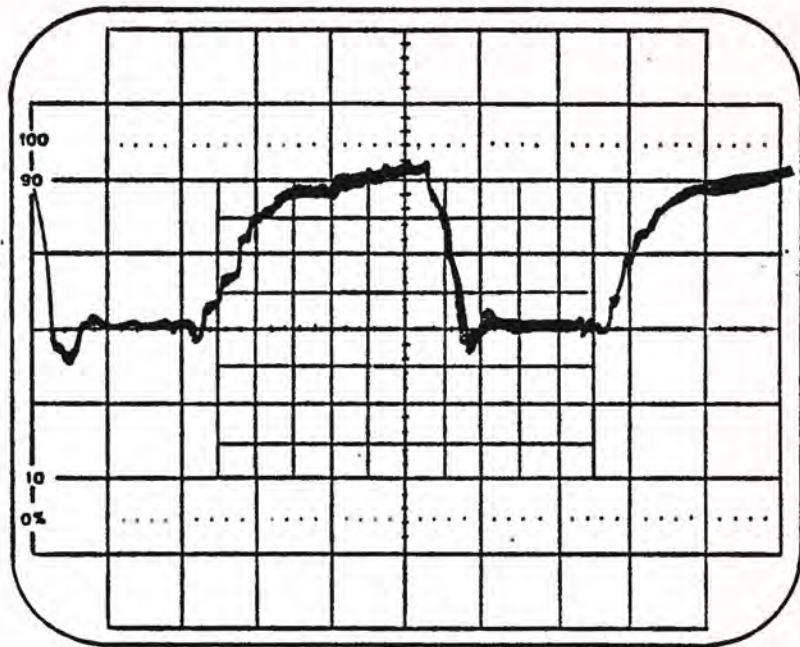

Figure 3-1
- 3) When board is selected, IC X pin 1 will be LOW. Check  $\overline{\text{CAS}}$  at IC H pin 12 for double negative going pulses when board is selected (Figure 3-1).